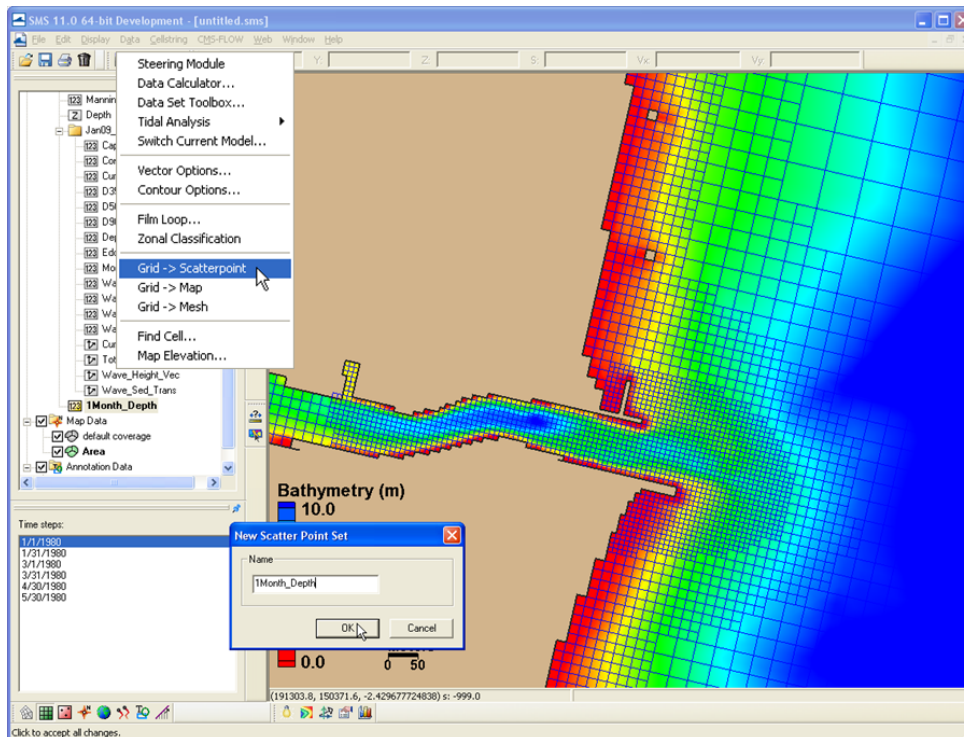

Figure 8.4.8. Converting a solution dataset to a scatter dataset.
- Rather than take the time required to convert the entire solution during this workshop, we have provided this file in the folder (File: *1Month_Depth*). (To convert the grid solution file to a scatterset, select *Data|Map to Scatter*, and SMS will convert all of your time series datasets to the scatter module (Figure 8.4.8). This can take anywhere from minutes to hours, depending on the size of the file and speed of the processor. Open the provided scatterset.